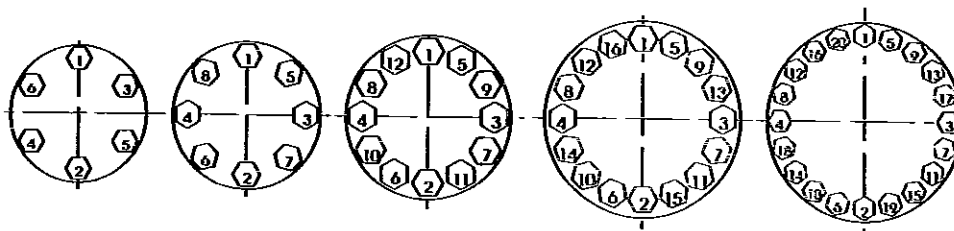

Figure 10
Evenly tighten the nuts (8) by applying the torque and tightening sequence indicated in the table in figure 10.